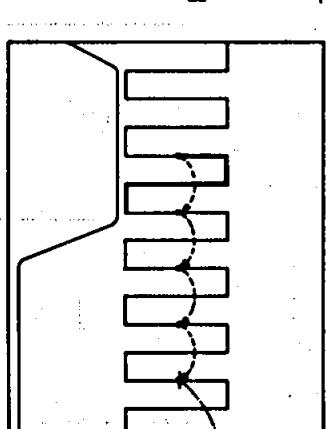

Figure 4-12.
- The time from A sweep start to bright part is regarded as the time determined by A TIME/DIV ⑪ and the bright part of the trace shown in a) is displayed as B sweep.
- a) When pressed B TRIG'D switch, B sweep starts right after delay time passes as the continuous delay status shown in Figure 4-12.
- b) When pressed B TRIG'D Switch, CRT screen displays the status of trigger delay as shown in a)' b' of Figure 4-12. Operation method of B sweep triggering level is same as that of A sweep.